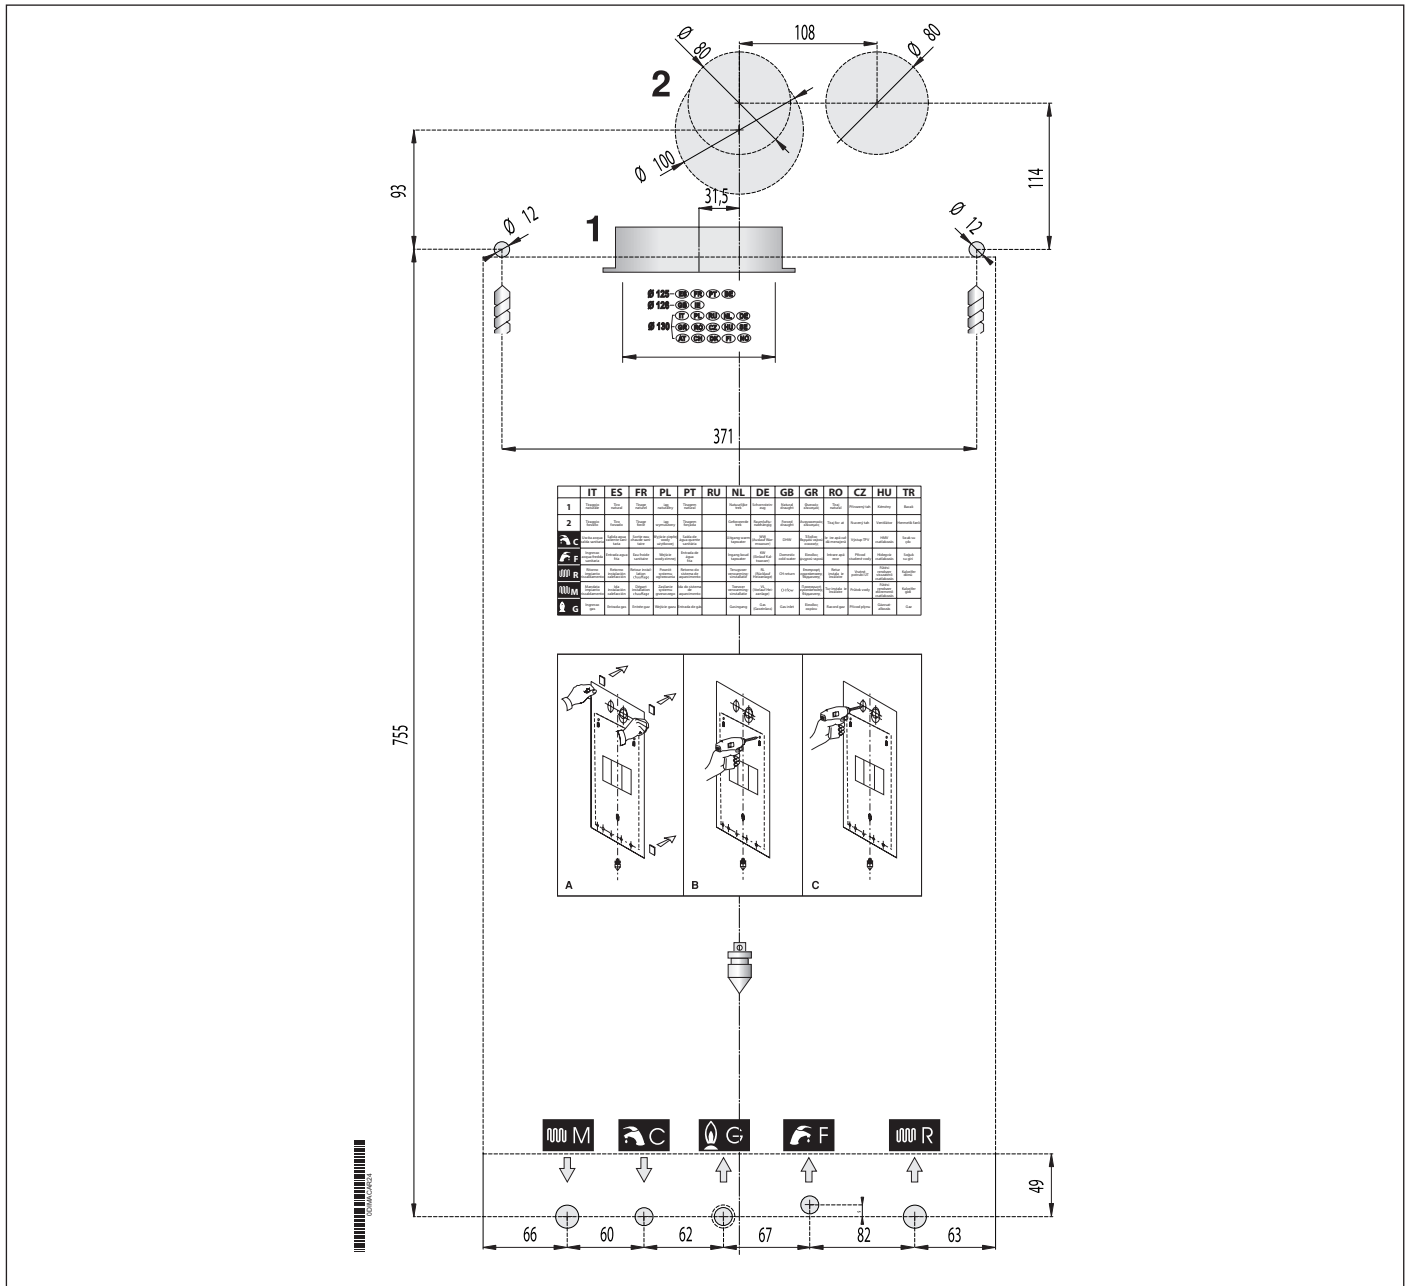

Fig. 5 Paper template
- the template for mounting the boiler on a wall (see Fig. 5 Paper template).
Each boiler is supplied with a paper template, found inside the packaging (see Fig. 5 Paper template).
The CH flow and return pipes must be connected to the respective 3/4" connectors (M) and (R) on the boiler (see Fig. 5 Paper template).
Cold water inlet and DHW outlet shall be connected to the boiler through the special 1/2" (F) and (C) fittings (see Fig. 5 Paper template).